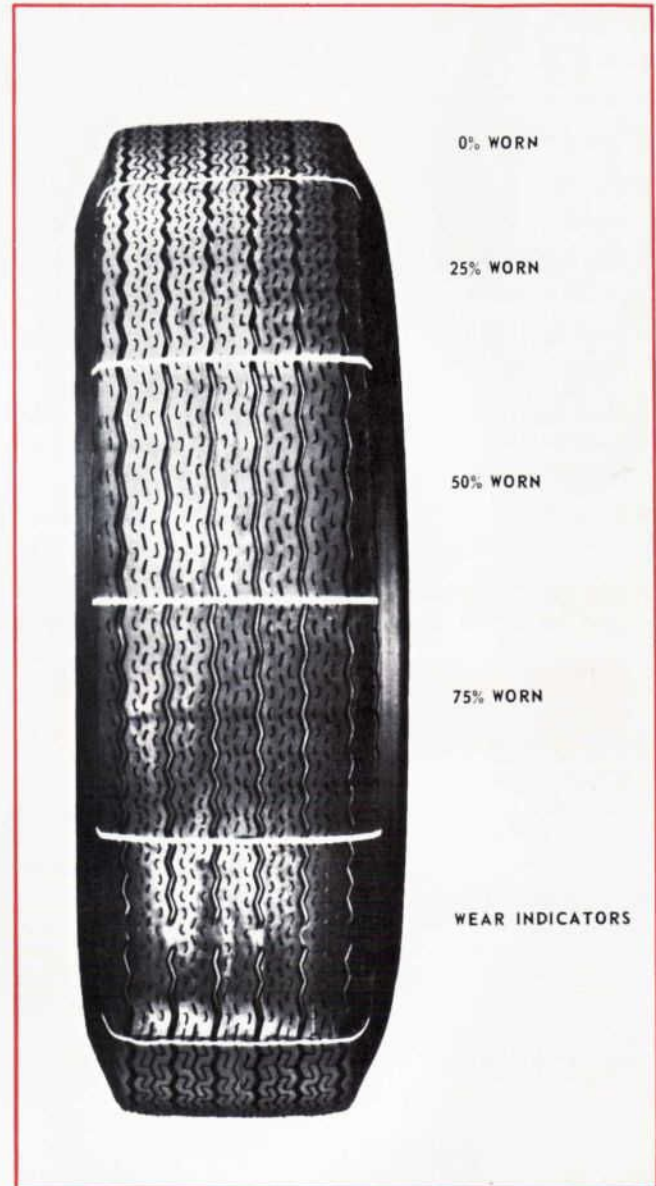

Figure 9—A Tire with Various Stages of Wear. (Note tread indicators showing tire is considered unsafe.)
When checking tires *with tread wear indicators*, the tire is considered worn when the tread wear indicators contact the road in any TWO (2) adjacent major grooves at THREE (3) locations spaced approximately equally around the outside of the tire, as shown in figure 9.